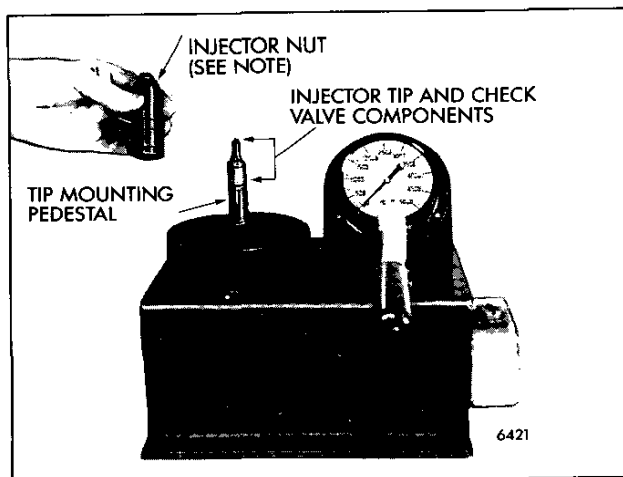

Fig. 5 - Installing Injector Nut
2. Place the tip assembly, valve spring with cage and check valve cage on top of the pedestal. Tighten the injector nut (Fig. 5).